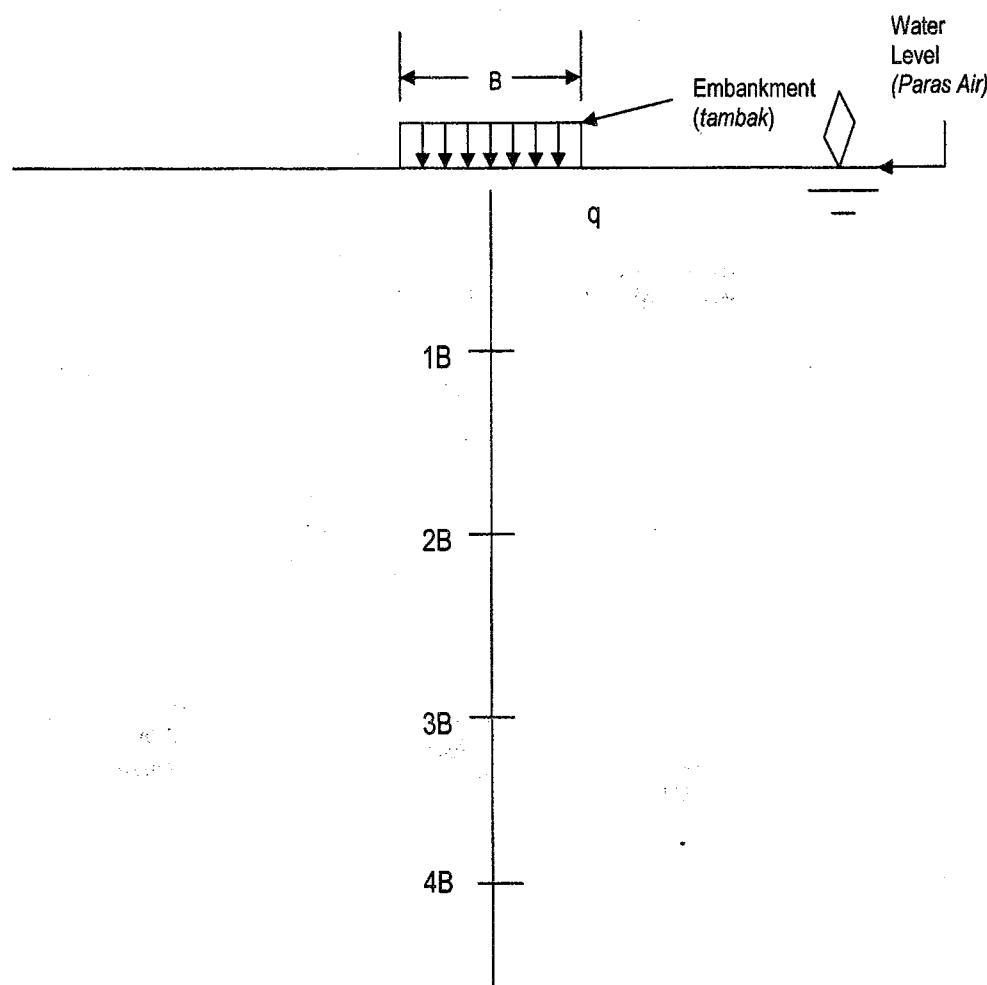

Figure 3
6. Table 4 shows changes in vertical stress with depth due to embankment construction as shown in Figure 3. Embankment width is 10.0 m, thickness 2.0 m, and density of  $2000 \text{ kg/m}^3$ . Density of field saturated soil is also  $2000 \text{ kg/m}^3$ .